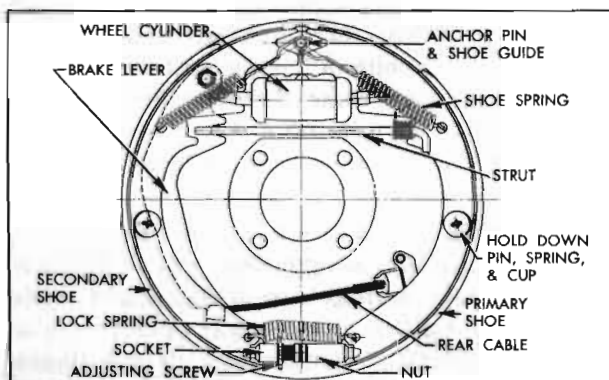

Figure 9-10—Rear Wheel Brake Assembly—Right
nect cable from parking brake lever (rear only). See figure 9-10.
3. Separate the brake shoes by removing adjusting screw and lock spring. Remove parking brake lever from secondary brake shoe (rear only). See figure 9-10.
2. On rear brakes only, lubricate fulcrum end of parking brake lever and the bolt with Bendix or Delco Brake Lubricant, or Lubriplate, then attach lever to secondary shoe with bolt, spring washer, nut, and Pal nut. Make sure that lever is free moving. See figure 9-10.
5. Attach brake shoes to backing plate with hold down springs, pins, and cups, at the same time engaging shoes with wheel cylinder connecting links. The primary shoe (short lining) goes forward. On rear brakes, connect cable to parking brake lever and install strut between lever and primary shoe as installation is made. See figure 9-10.